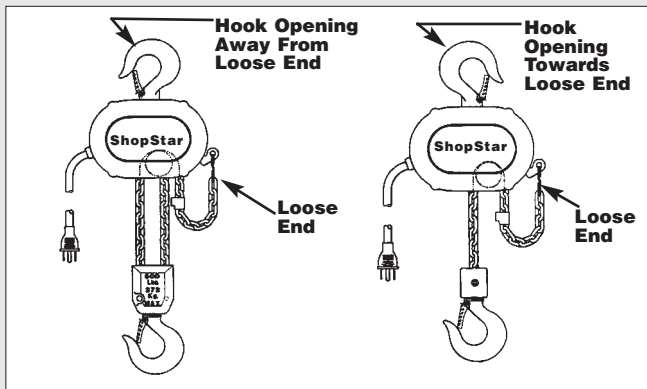

Figure 13A
11. Properly install the upper hook as shown in Figure 13A, then slide the hook retainer (620-139) into the cavity on top of the hoist and secure it using hook retainer screw (620-140). Tighten screw to a seating torque of 10 in. lbs. (1.1 NM).